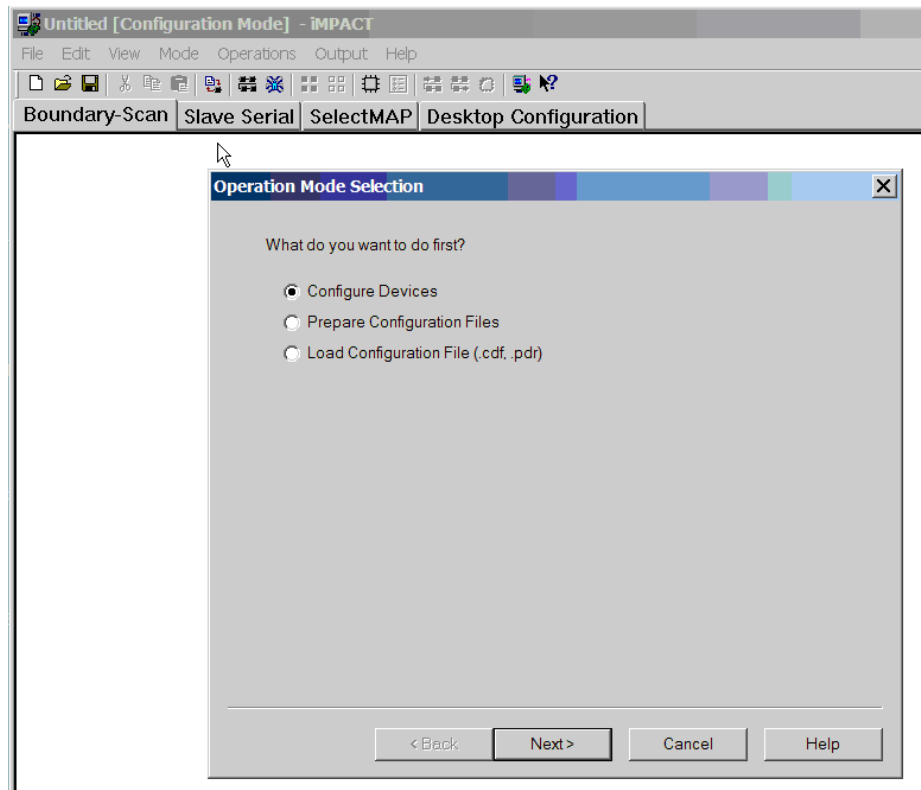

Figure C-1: Operation Mode Selection: Configure Devices
3. Start up iMPACT and select Configure Devices as shown in Figure C-1.